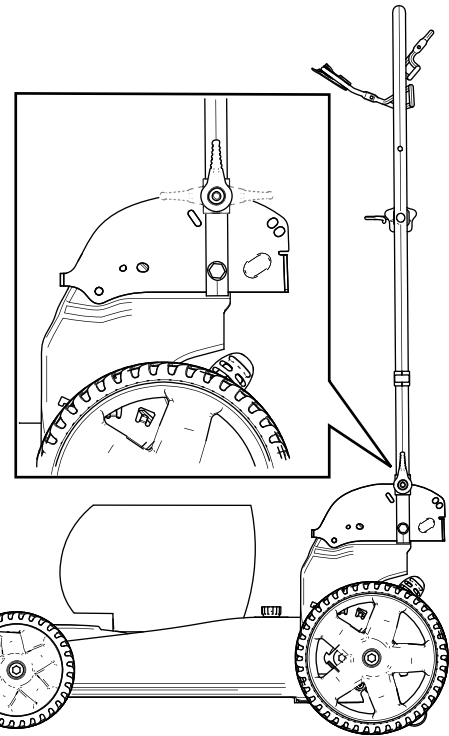

Figure 25
4. Fold the handle forward either to the vertical position or the fully forward position as shown in Figure 25.